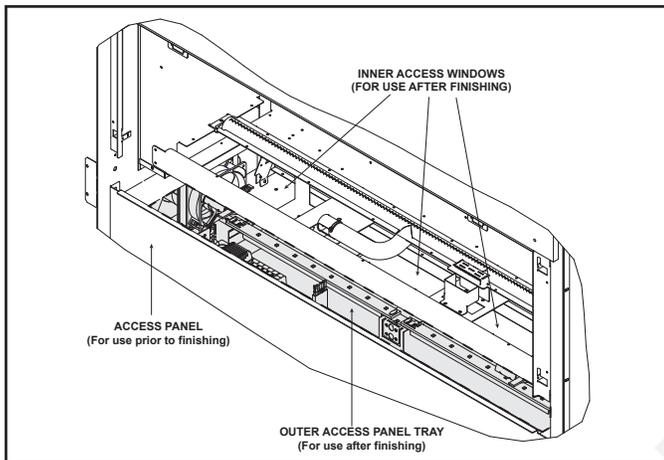
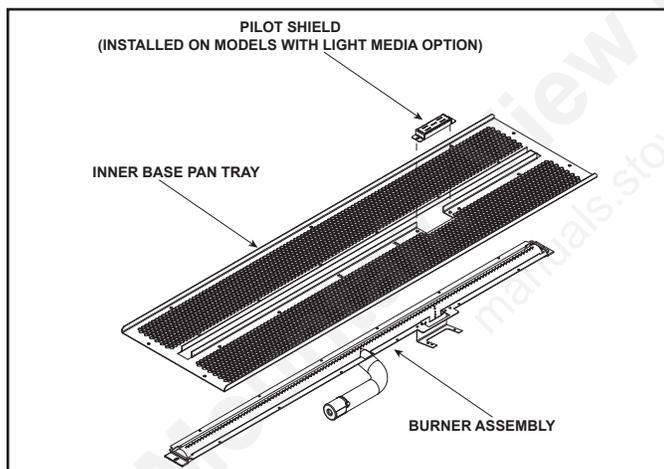

Figure 9.2 Gas and Electrical Access
Figure 9.3. Base Pan with Burner and Pilot Cover
The lower access cover panel is removable if finishing material is not installed. See Figure 9.2.
2. Remove the base pan. It is attached with 10 screws to the interior firebox bottom and with 12 screws to the burner assembly. If your appliance is a model that has the glass rock media, you must also remove the pilot shield cover at this time. See Figure 9.2 and Figure 9.3.
3. Remove the two screws securing the burner to the firebox sides and disengage burner from over orifice. Remove burner. See Figure 9.3.
4. Remove access panel covers or glass windows, along with gaskets. Gaskets may be fragile. Handle with care. See Figure 9.2.